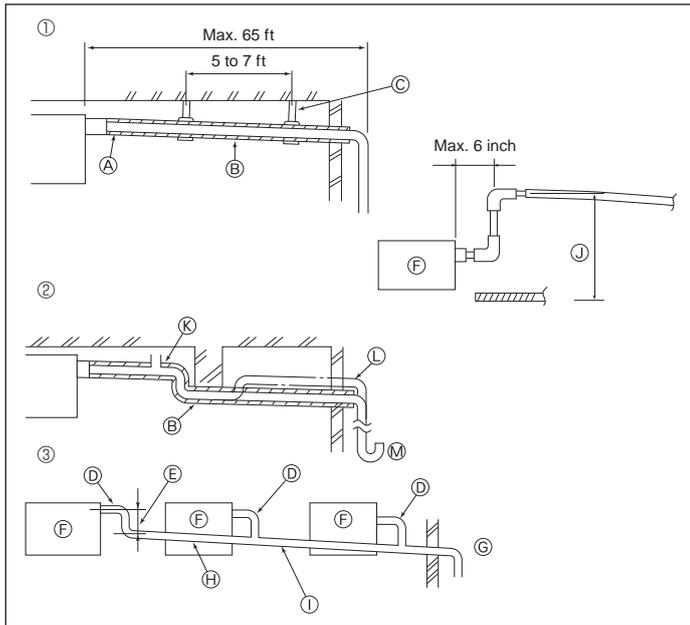

Fig. 4-1
4.1. Drainage piping work (Fig. 4-1)
- ① Correct piping
- ② Wrong piping